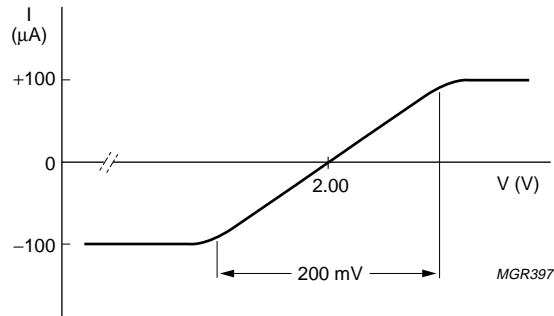
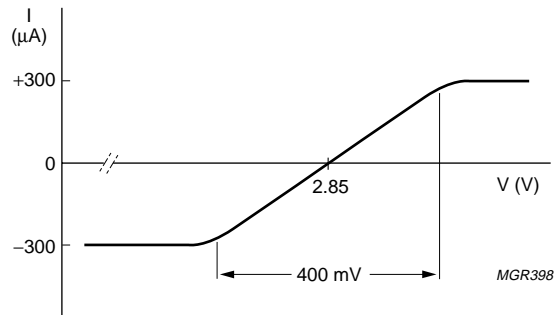
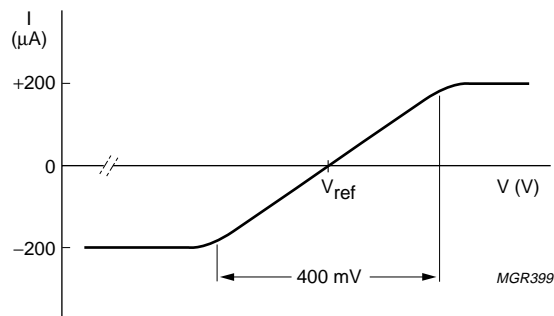

Fig.9 Typical clamp current for pin CPCDS.
Fig.10 Typical clamp current for pins IND and INP.
Fig.11 Typical clamp current for pin V_{ref} .
1. More information about CDS related signals is available in the following figures: The clamp current for pin CPCDS is given in Fig. 9, clamp current for pins IND and INP in Fig 10 and for clamp current for pin V_{ref} in Fig 11. The CDS output amplitude is shown in Fig. 14